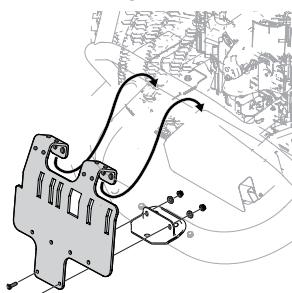

Figure 5
- Hang adapter bracket assembly onto upper frame tube and connect to hitch bracket adapter with two screws (710-0376), two cup washers (736-0242) and two flange lock nuts (712-04063). See Figure 5.